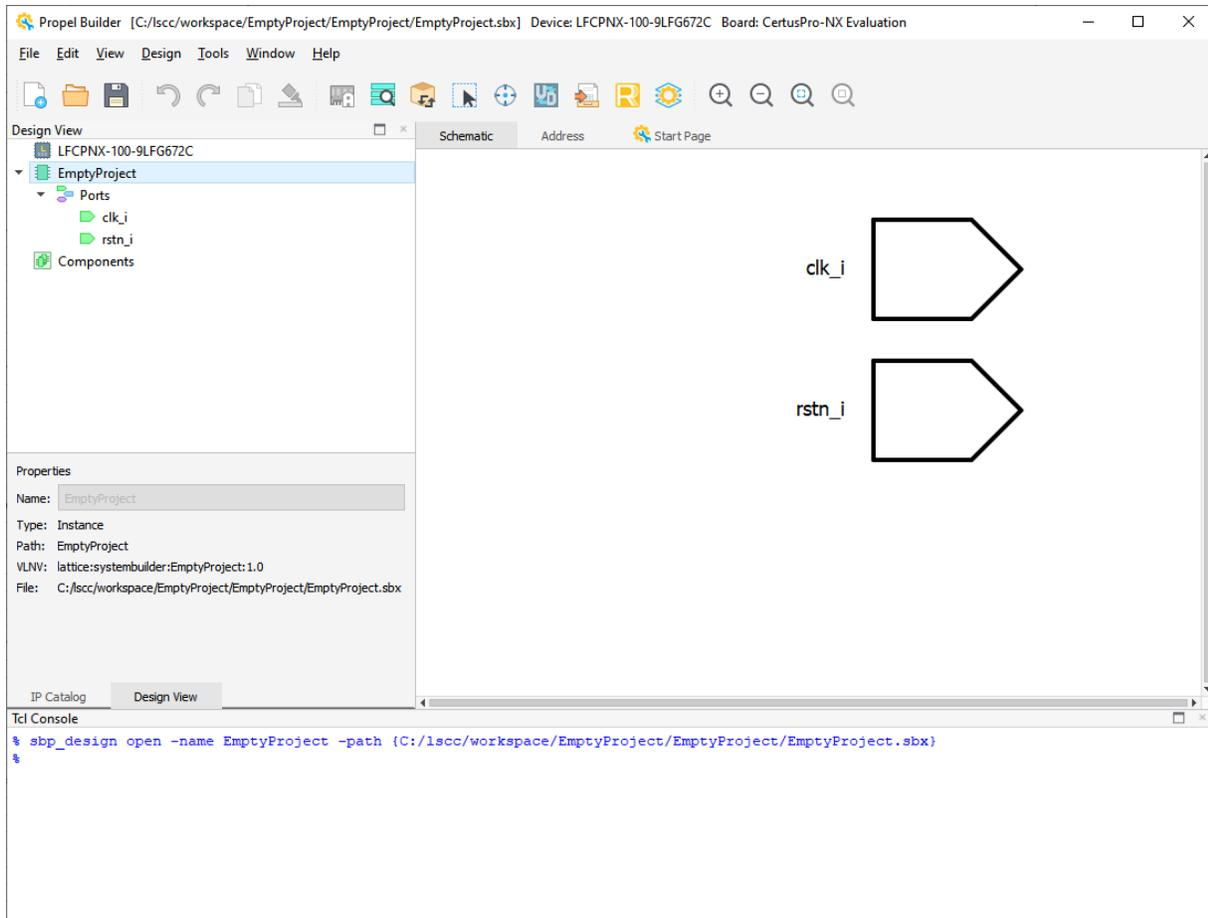

Figure 2.8. Propel Builder GUI Shows Empty Project
- Click **Finish**. Propel Builder GUI opens (Figure 2.8).